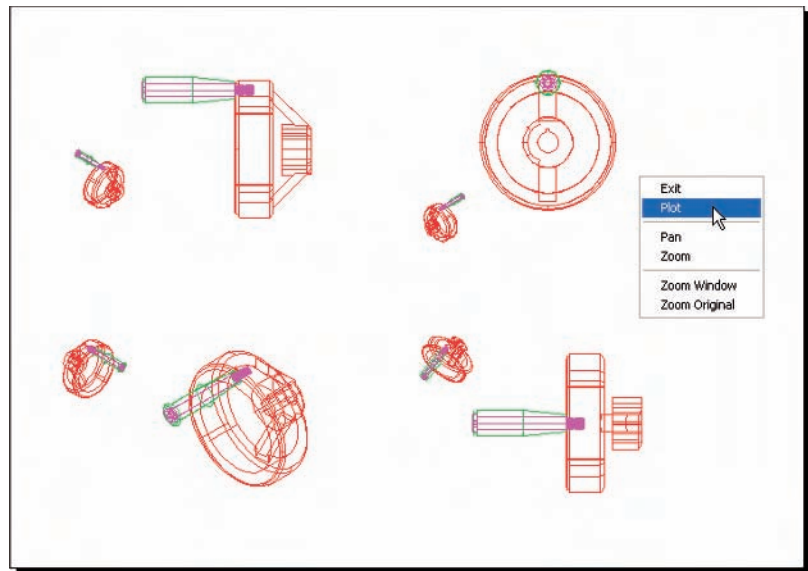

Fig. 20.12 Polygonal viewports – plot preview after turning the layer **Yellow** off
14. Now plot the drawing. The **Preview** appears (Fig. 20.12).